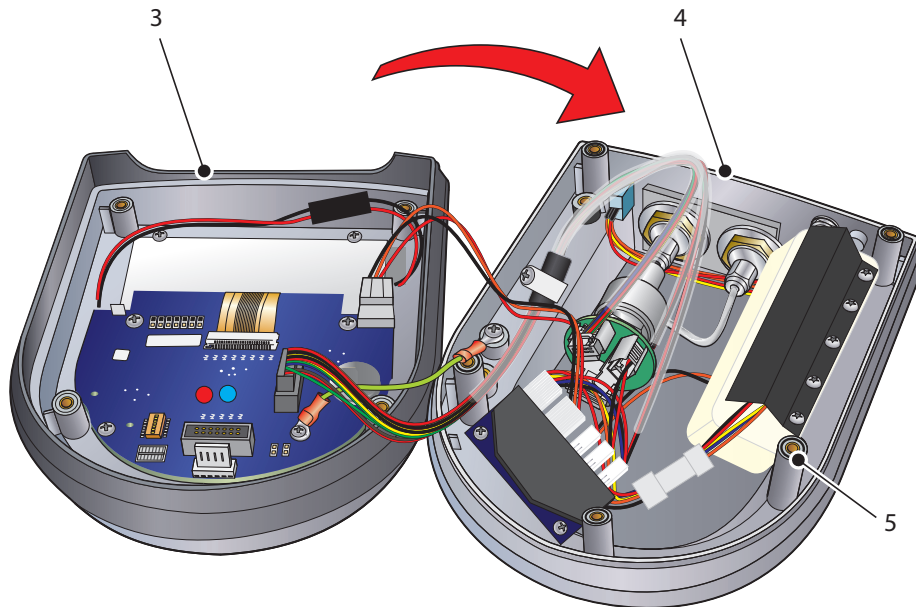

Figure 2 Open Case
5. Open the two halves of the casing. **NOTE: There is a seal between the two halves so the top and bottom halves may need to be eased apart. There should also be an O-ring (see Figure 2, (5)) on each of the five pillars - keep these safe for later use.**
6. Place the two halves of the casing (3) and (4) side by side (refer to Figure 2).